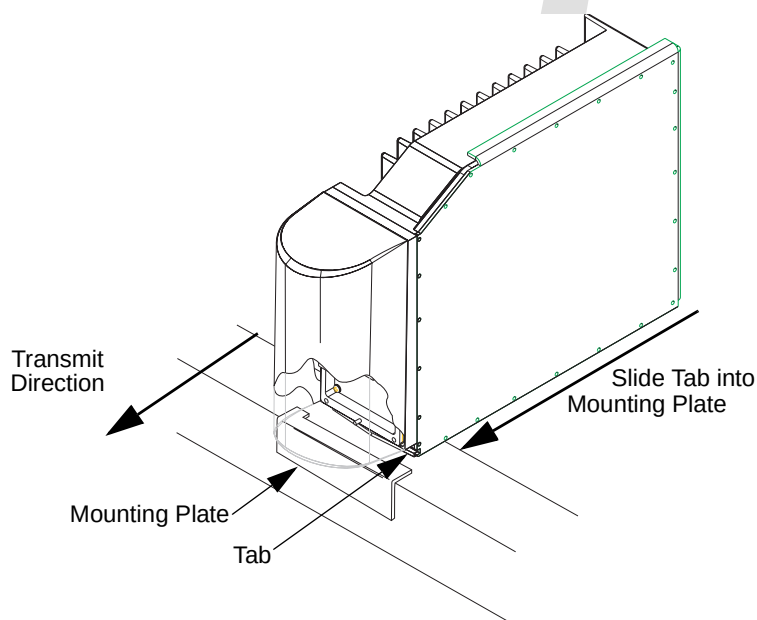

Figure 2. Sliding the Tab into the Mounting Plate
2. Align the tab on the front edge of TX with the mounting plate on the front edge of the mounting platform (see Figure 2).